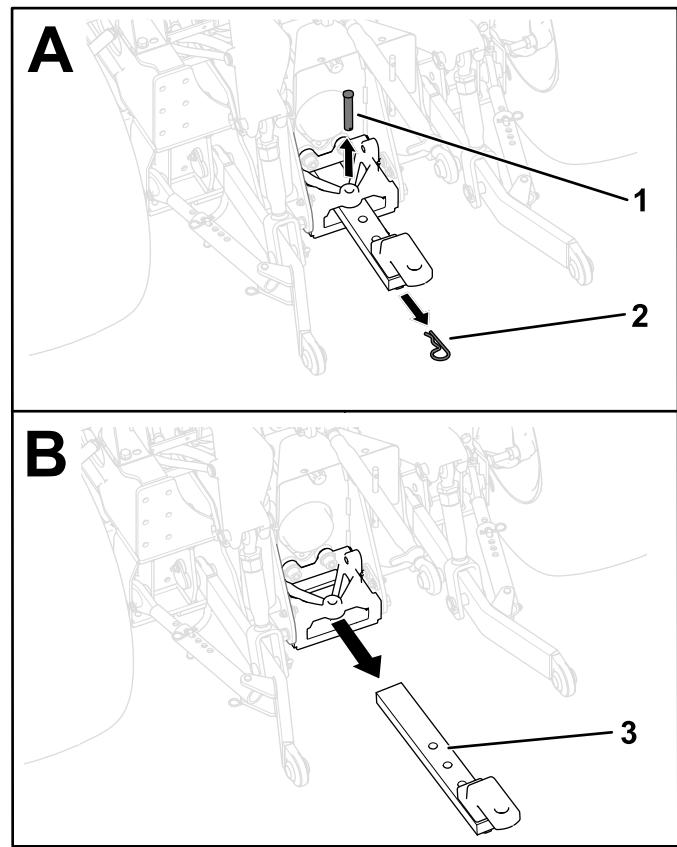

Figure 20
2. Remove the drawbar from the support (Figure 20).
1. Remove the hairpin cotter and the clevis pin that secure the drawbar to the drawbar support (Figure 20).